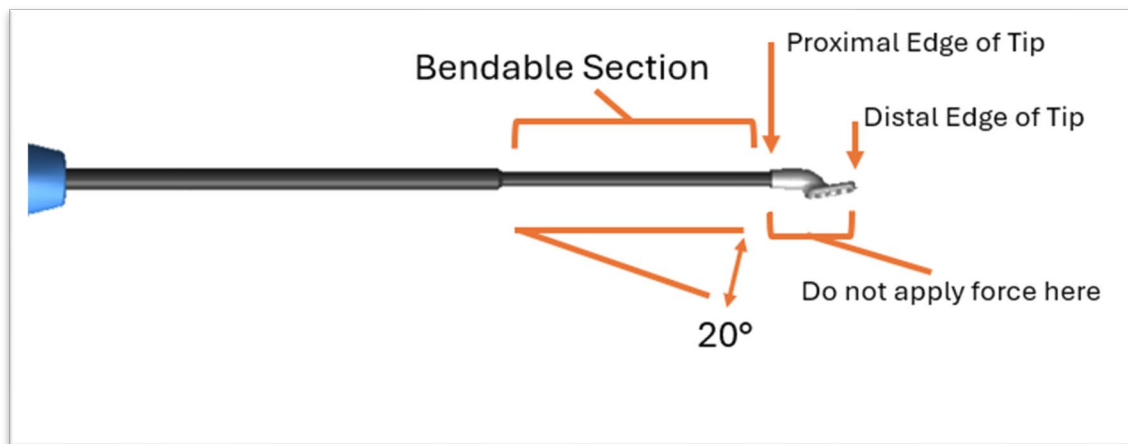

Figure 6: Bending Diagram
16. Use the diagram below (see **Figure 6**) for the bend angle and bendable area.